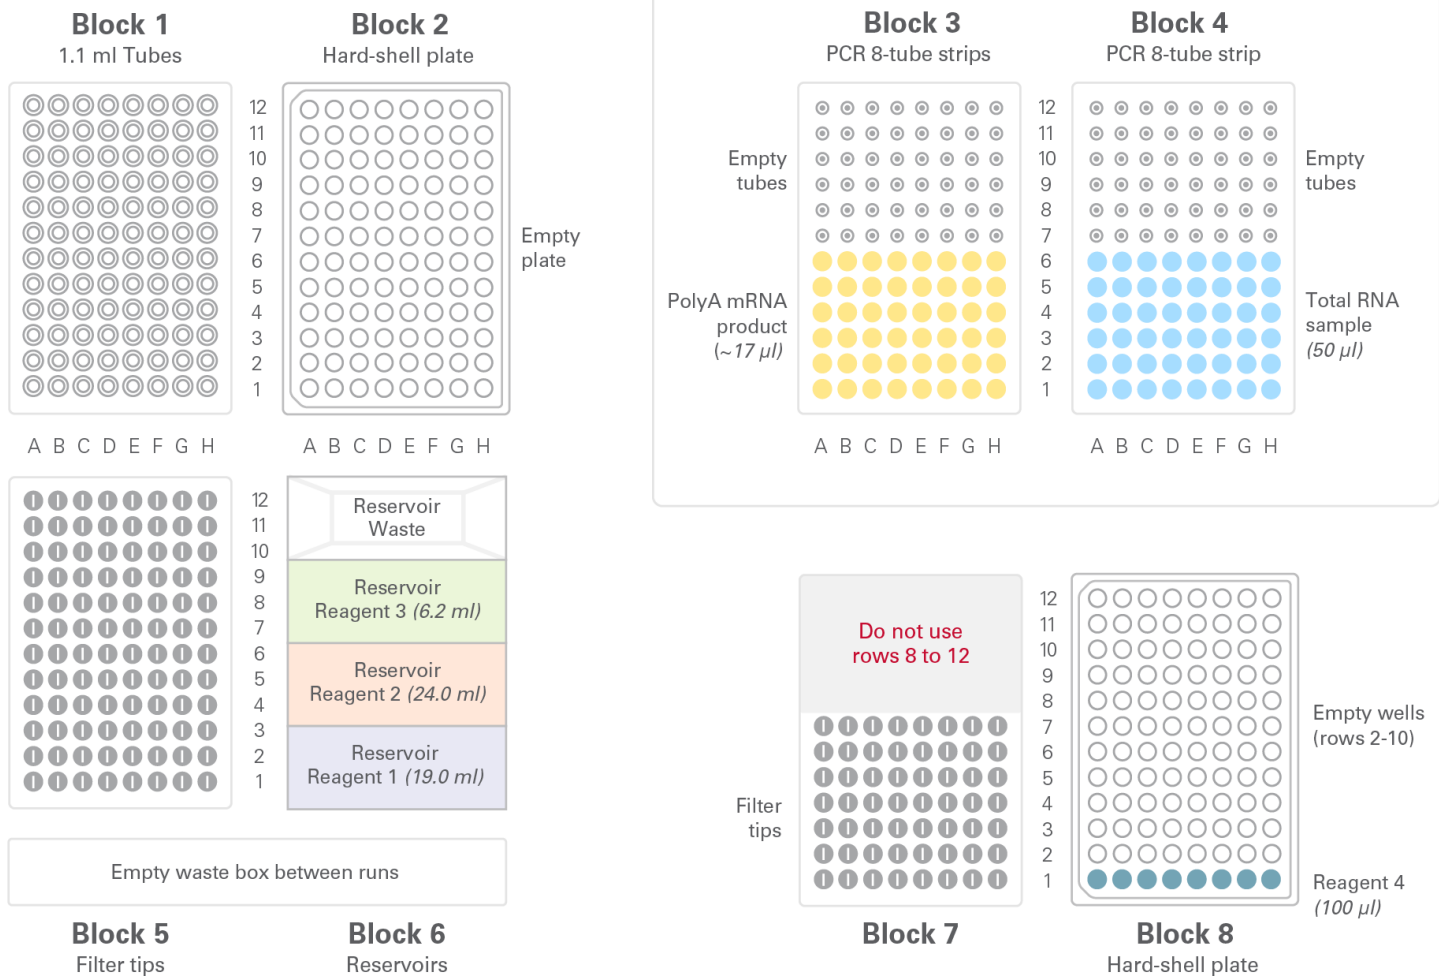

Figure 2. Deck layout for PolyA mRNA isolation from 48 samples. For this protocol, use script PrepX PolyA 48. Run time is 3 hours and 45 minutes.
3. Load consumables onto the Apollo system work surface according to the layout in Figure 2. First, load the consumables that do not initially hold reagents (table above). Just before the run, load the consumables containing reagents, but not samples, onto the system.